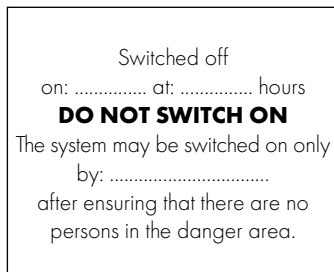

Fig. 8: "Switched off" sign
4. If it is not possible to secure a switch with a lock, affix a sign as shown in Fig. 8.